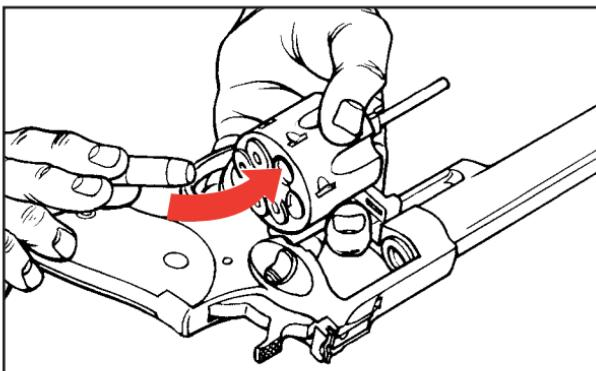

Figure 7
1. Press the crane latch and guide cylinder out of frame to the left to its loading position (See Figure 7).